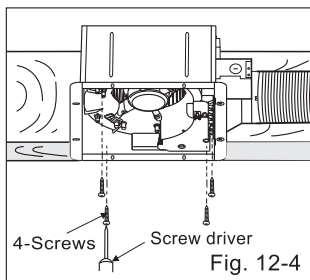

Fig. 12-4
7. Insert the blower into the fan body and secure the blower. (Fig. 12-4)